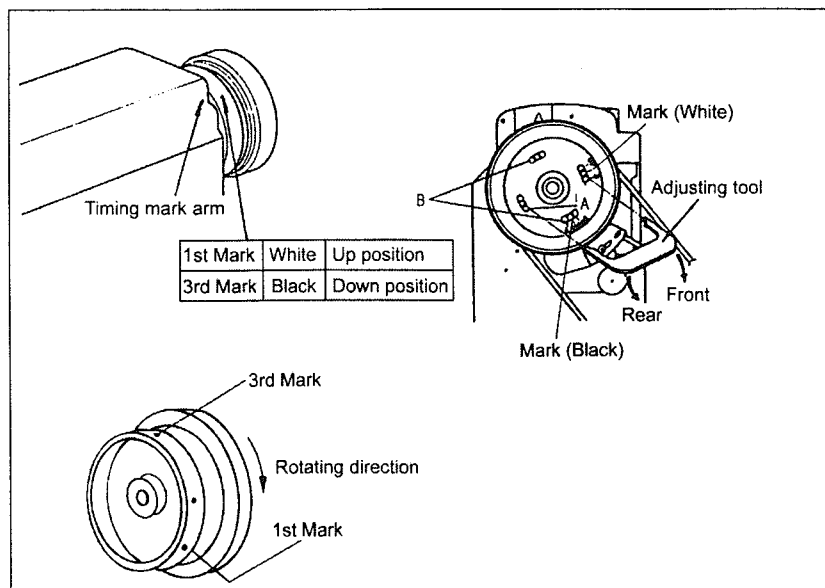

Fig. 3
4、 Adjustment of needle bar stop position(Fig3):